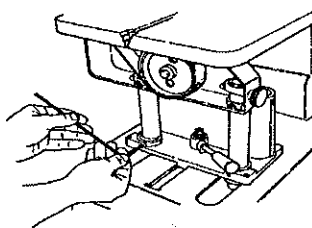
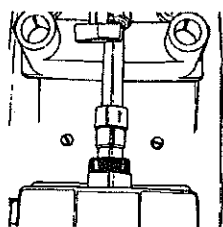

Fig.E-7
Fig.E-6
10. When it is horizontally aligned (Fig.E-6), tighten the carriage setscrews (22) as in Fig.E-7, securing the Strip Sander tubes.